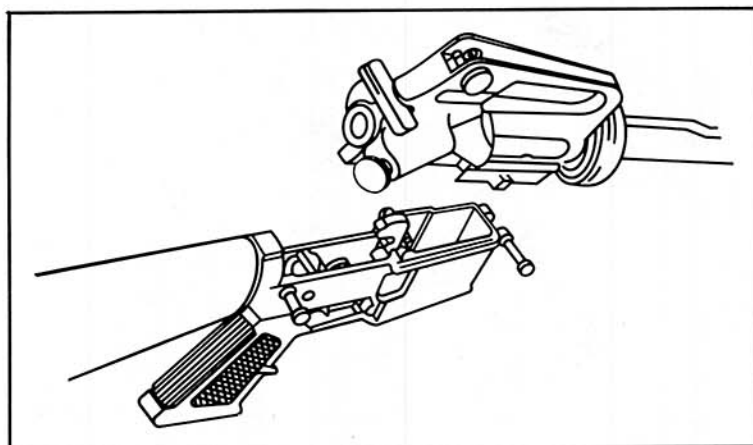

Figure 2-9 Receivers Separated
- d. Push/pull the receiver pivot pin at the front of the magazine housing and separate the upper receiver from the lower, see Figure 2-9.